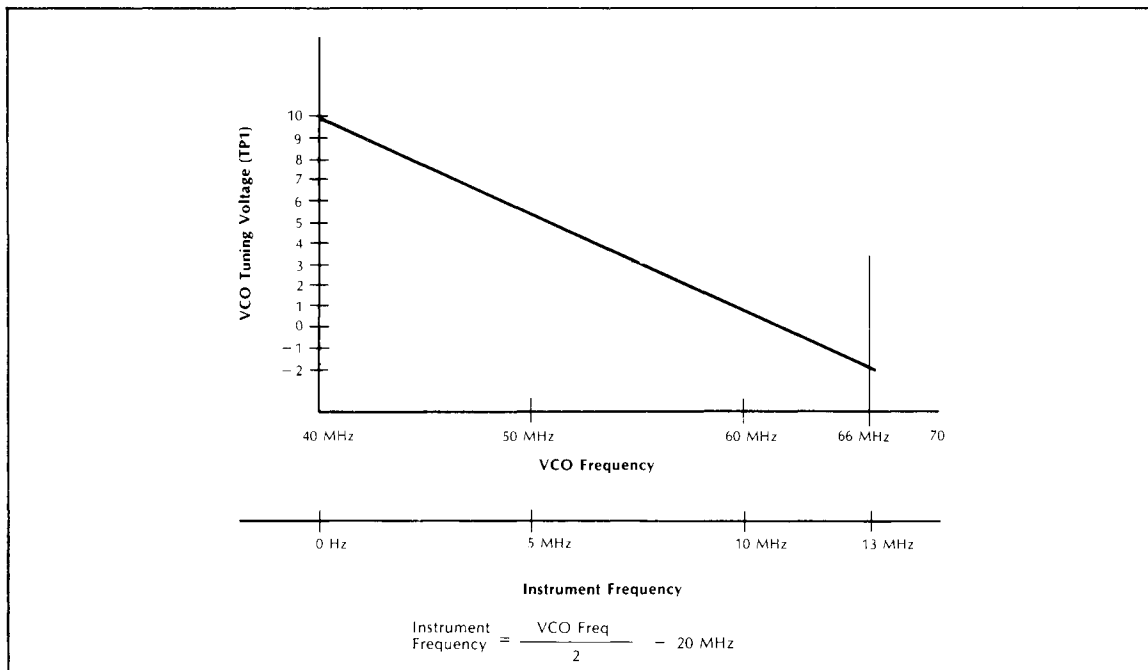

Figure 6-49. VCO Tuning Graph
9. Use the waveforms in the timing diagram (Figure 6-52) and the levels in the VCO tuning graph (Figure 6-49) to troubleshoot further.